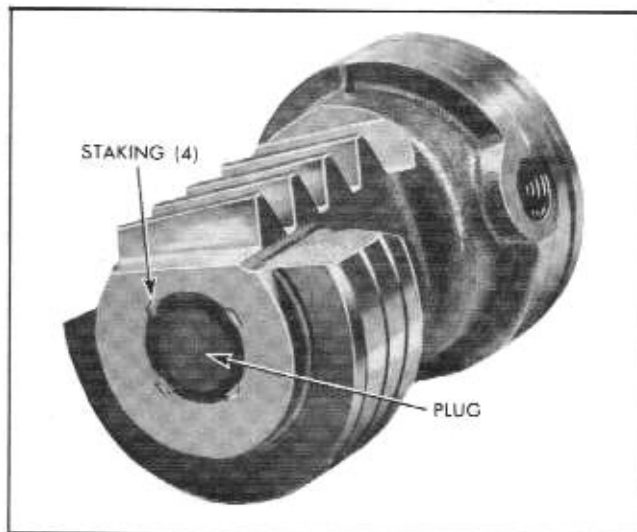

Fig. 9-43 Rack Piston End Plug Staked
2. To replace rack-piston end plug, press plug in flush with end of rack-piston and stake four places evenly (Fig. 9-43).